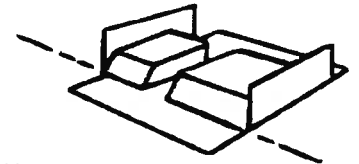

Figure 3
2. Select one or more of the shorter keepers and position them as shown in Figure 3. It is not necessary to make an exact length since the bend will carry over up to 1 inch between keepers, depending on the type and thickness of material being bent.